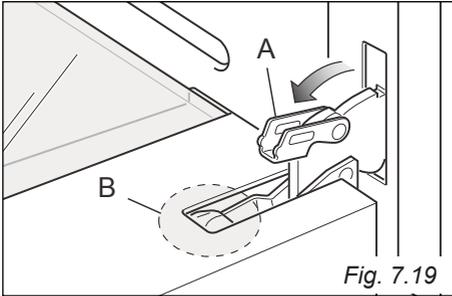
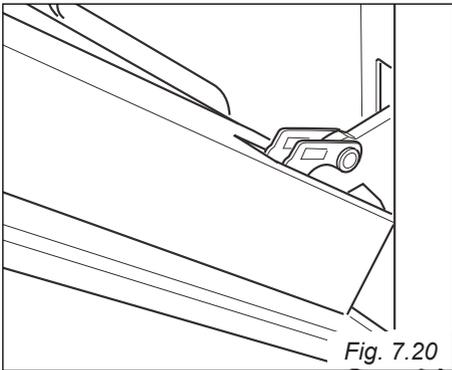

Fig. 7.19
Fig. 7.20
- Open the lever "A" completely on the left and right hinges (fig. 7.19).
- Gently close the door (fig. 7.20) until left and right hinge levers "A" are hooked to part "B" of the door (fig. 7.19).